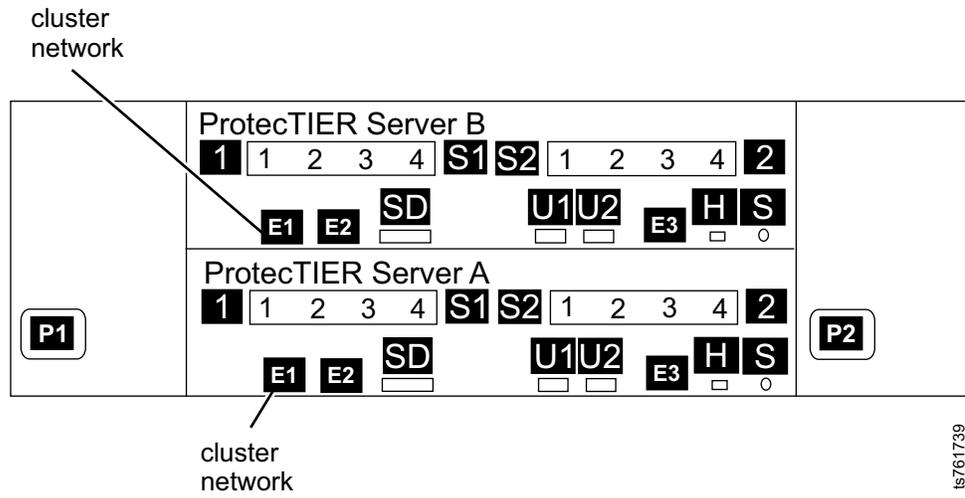

Figure 31. Server B replication ports for OpenStorage configuration, FC 3456
- a. Remove replication cables from Server B ports that are labeled **17** and **18** in Figure 31.